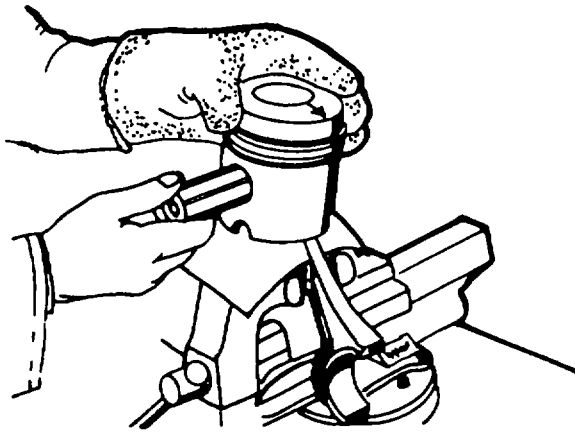

Figure 5-40. Fitting the Piston Pin
1. Install a circlip in the piston for the location of the piston pin (figure 5-40).